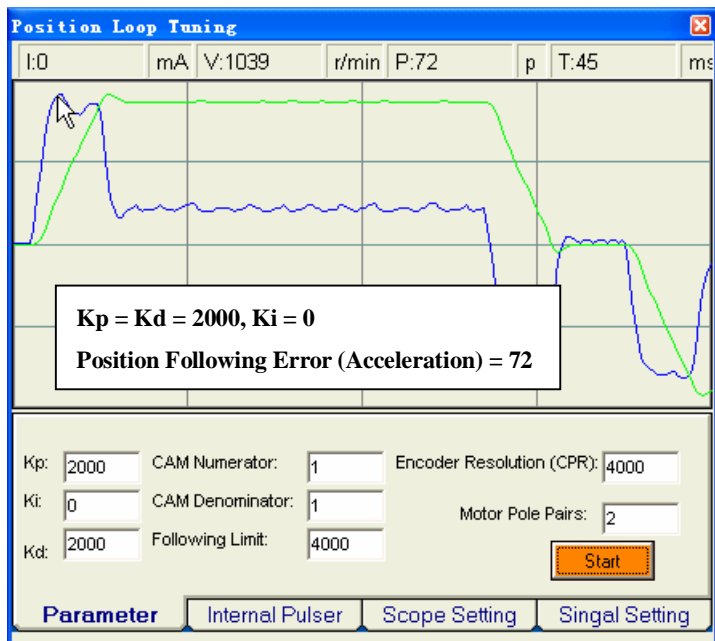

Figure 3-11: Increase Kp to 2000 to maximize the system stiffness
Step 2: Increase K_p and K_d synchronously until motor noise/vibration begins. Then back off. To activate the noise/vibration, sometimes you need to give a disturbance to the load by either starting the self-motion test or trying to push/pull the load. In this example, we give both K_p and K_d 2000, 3000, 4000, 5000 and 6000. We find that the noise/vibration begins at $K_p=K_d=6000$. So we stop increasing K_p and K_d . The motor shaft or load is stiff enough at standstill when we back off K_p to 5000 and the motor noise/vibration can be accepted. And we can see the position following error is reduced when the K_p and K_d increase. See figure 3-11, 12, 13 and 14.